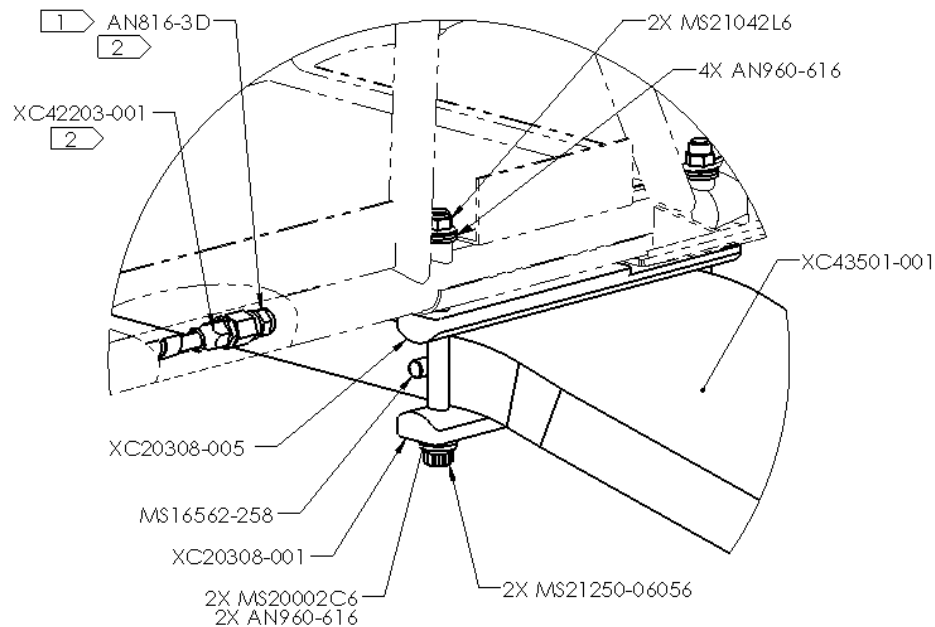
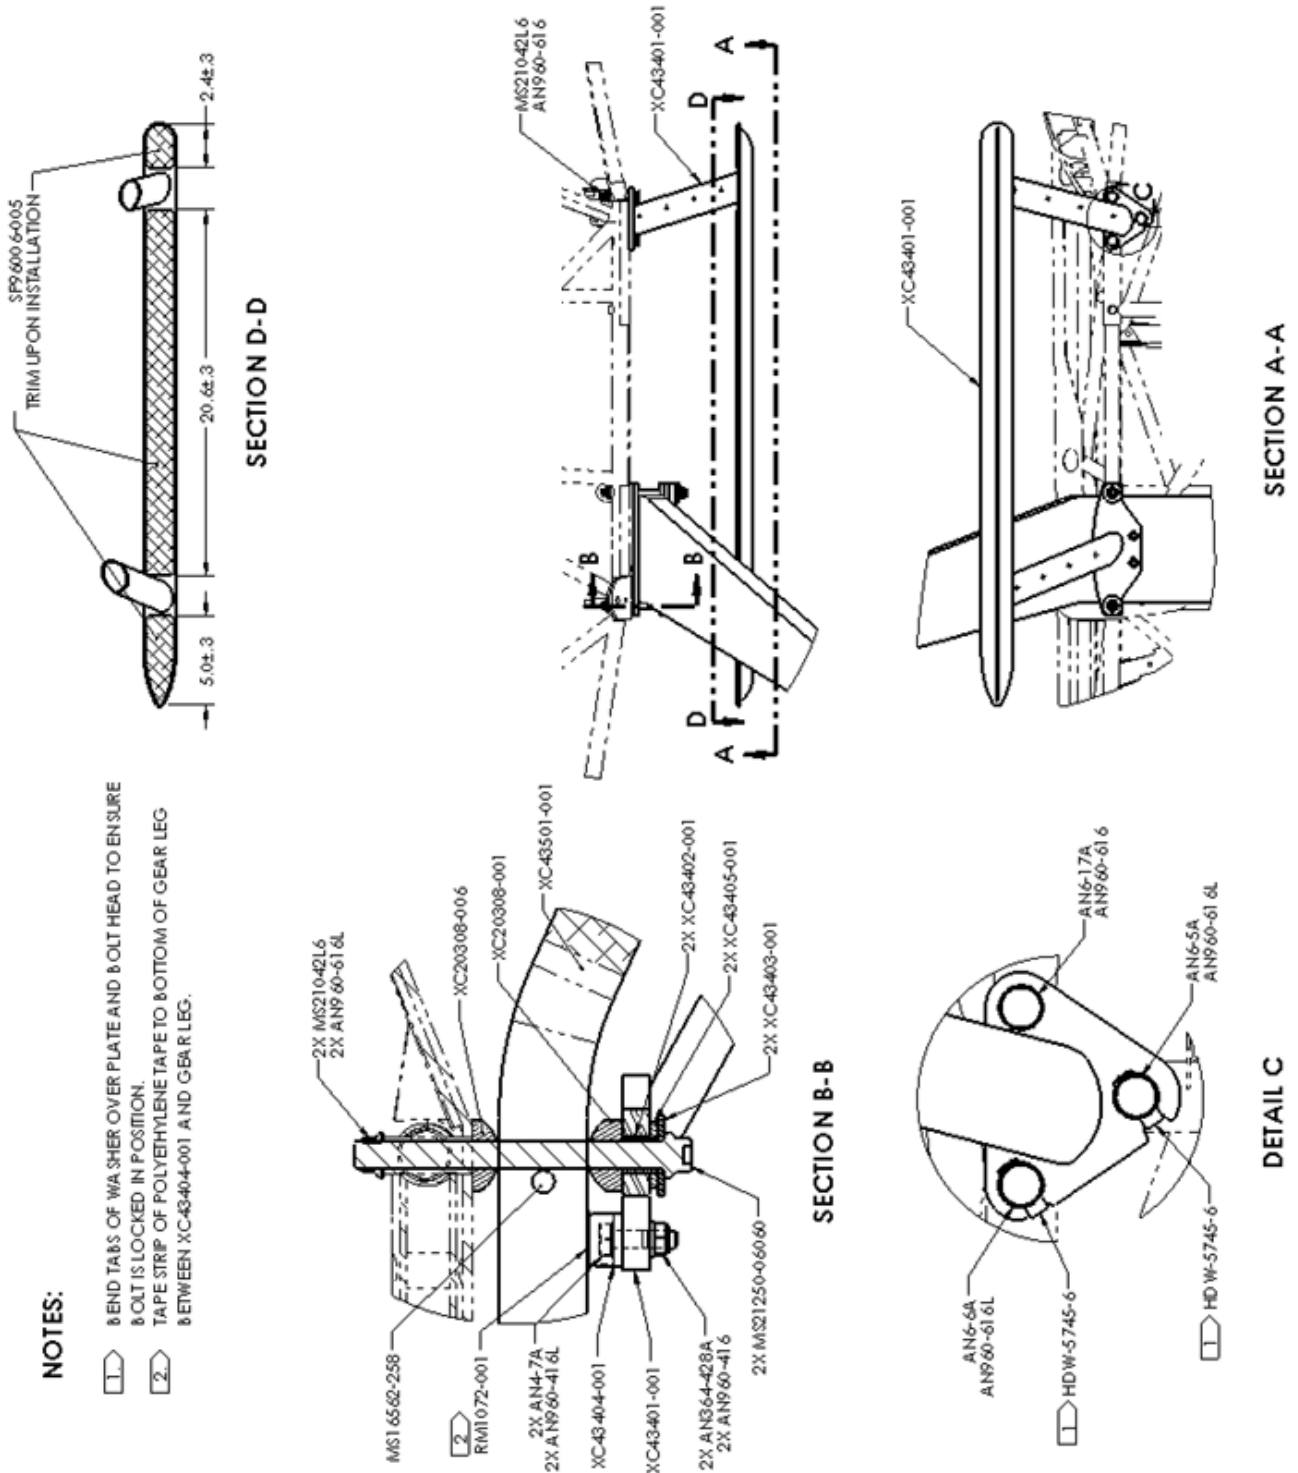

Figure 11 – Spring Gear Installation
Figure 12 – Spring Gear/ Step Installation
22. Install the four MS16562-258 spring pins in the Ø5/16 holes located on the front and aft sides of the upper flat section of the gear leg. MS16562-258 pins are shown in Figure 11 and Figure 12.
23. Install the new spring gear and entry step in accordance with Figure 11 and Figure 12. On the right hand side, be sure to pre-assemble the XC43404-001 spacer block onto the step before installing gear leg. Installation of brake fittings, as shown in Figure 11 may be postponed until after the plane is resting on 3 wheels.